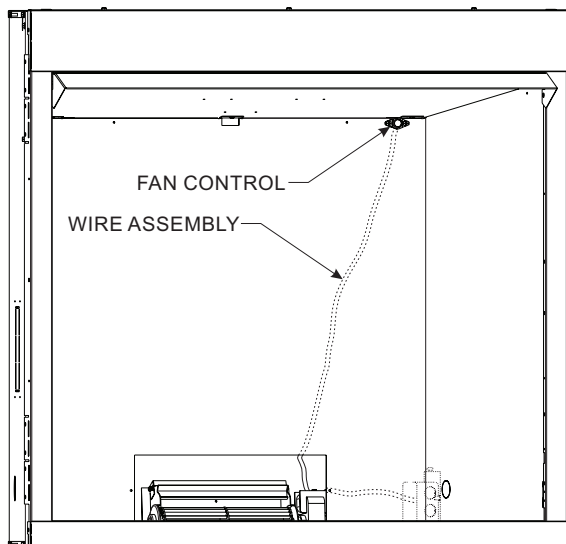

Figure 23
- Next, find the fan control switch and wire assembly. Feed the wires through the hole at the top of the firebox, and secure the fan control switch with the two screws provided. **See Figure 23.**
- The fan control wires will slide down between the firebox and outer wrap near the blower assembly. **See Figure 23.**